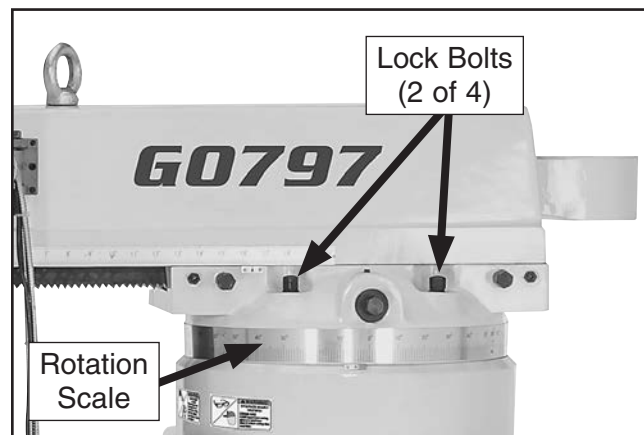

Figure 35. Ram rotational controls.
2. Loosen four lock bolts on top of turret (see **Figure 35**).